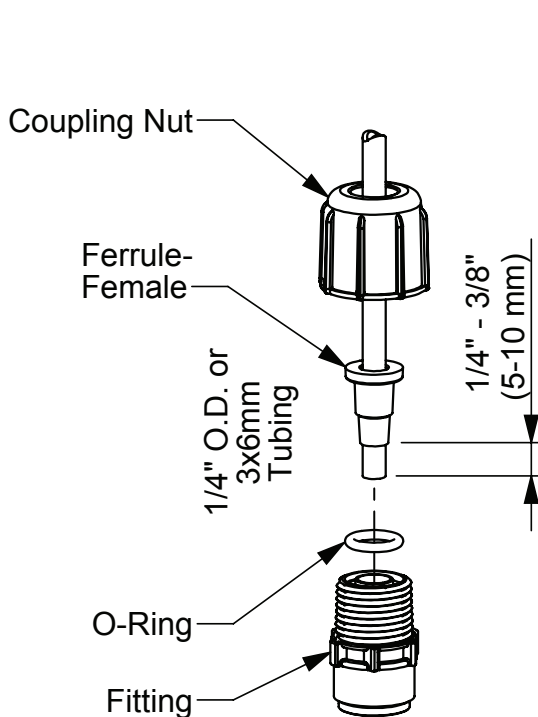

FIGURE 1
- 2a. For 1/4" OD tubing: Position the Female Ferrule so that 1/4" to 3/8" (5-10 mm) of tubing protrudes from the Female Ferrule. Orient the raised collar of the Ferrule toward the Coupling Nut (reference FIGURE 1).